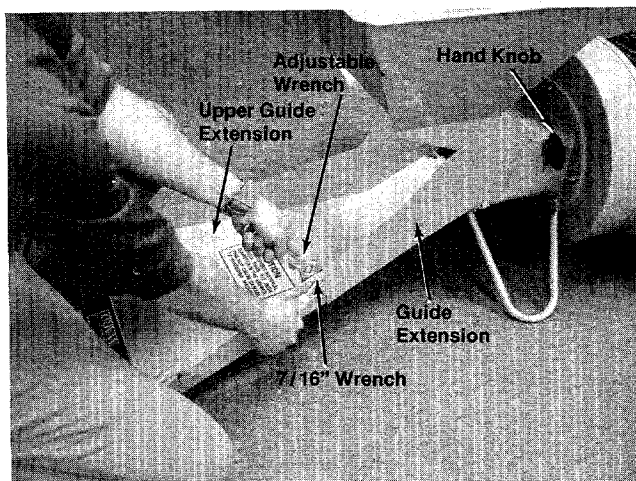

FIGURE 5.
- A. Loosen hand knob on right hand side of shredder. See figure 5.
- B. Place upper guide extension in place on guide extension and secure with four hex screws (B) and hex center locknuts (C). A $\frac{7}{16}$ " wrench and adjustable wrench is required. See figure 5.